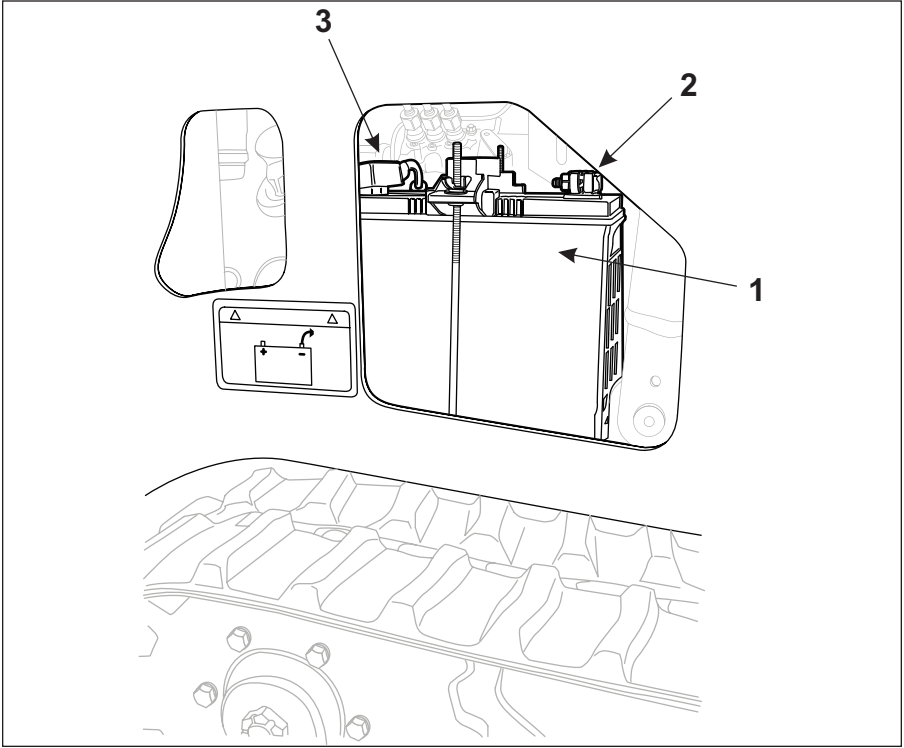

Figure 4-16 Battery and Cable Connections
2. Check the battery (Item 1, **Figure 4-16**) and cable connections (Items 2 and 3, **Figure 4-16**) for signs of leaking, corrosion or damage. (Some items have been removed for clarity.)